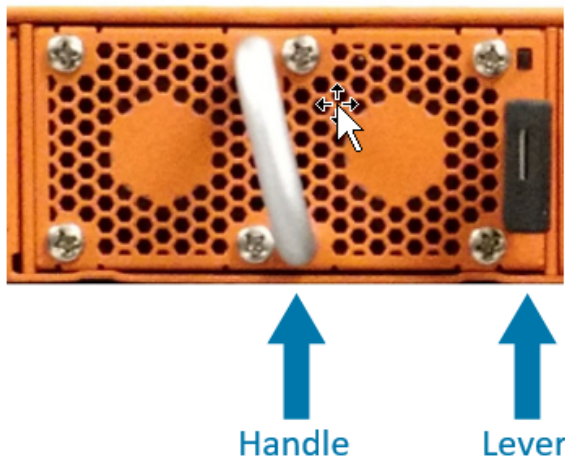

Figure 11 *Replacing a Fan (GigaVUE-TA25 Shown)*
1. Locate lever and handle as shown in Figure 11 Replacing a Fan \(GigaVUE-TA25 Shown\).